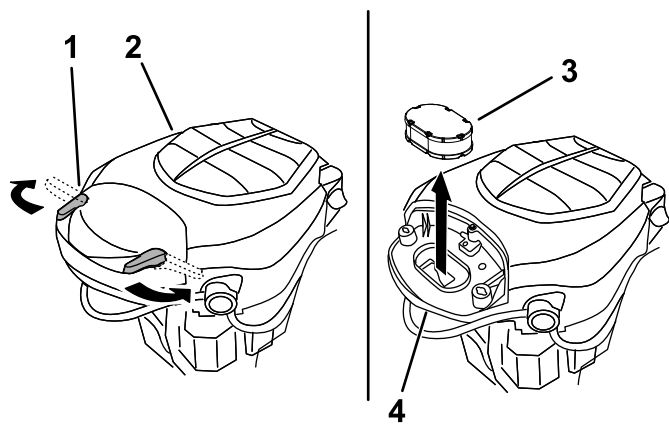

Figure 32
3. Install the cover and secure it with the latches (Figure 32).